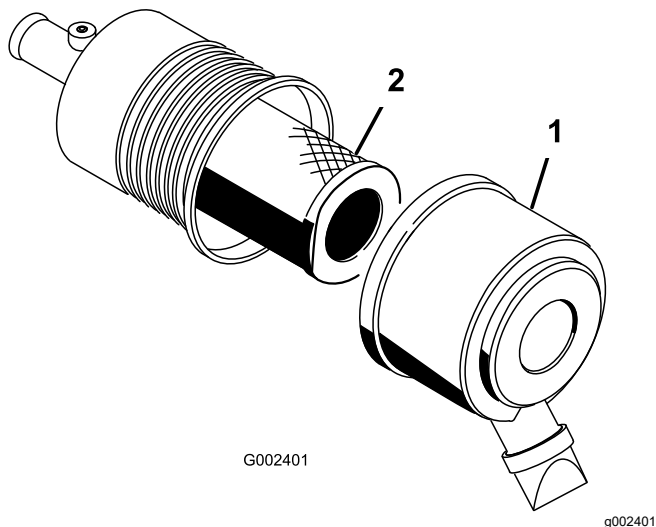

Figure 43
1. Release the latches on the air cleaner and pull the air-cleaner cover off the air-cleaner body (Figure 43).
3. Gently slide the filter out of the air-cleaner body (Figure 43).
5. Carefully slide the filter over the body tube (Figure 43).
6. Install the air-cleaner cover with the side facing up, and secure the latches (Figure 43).